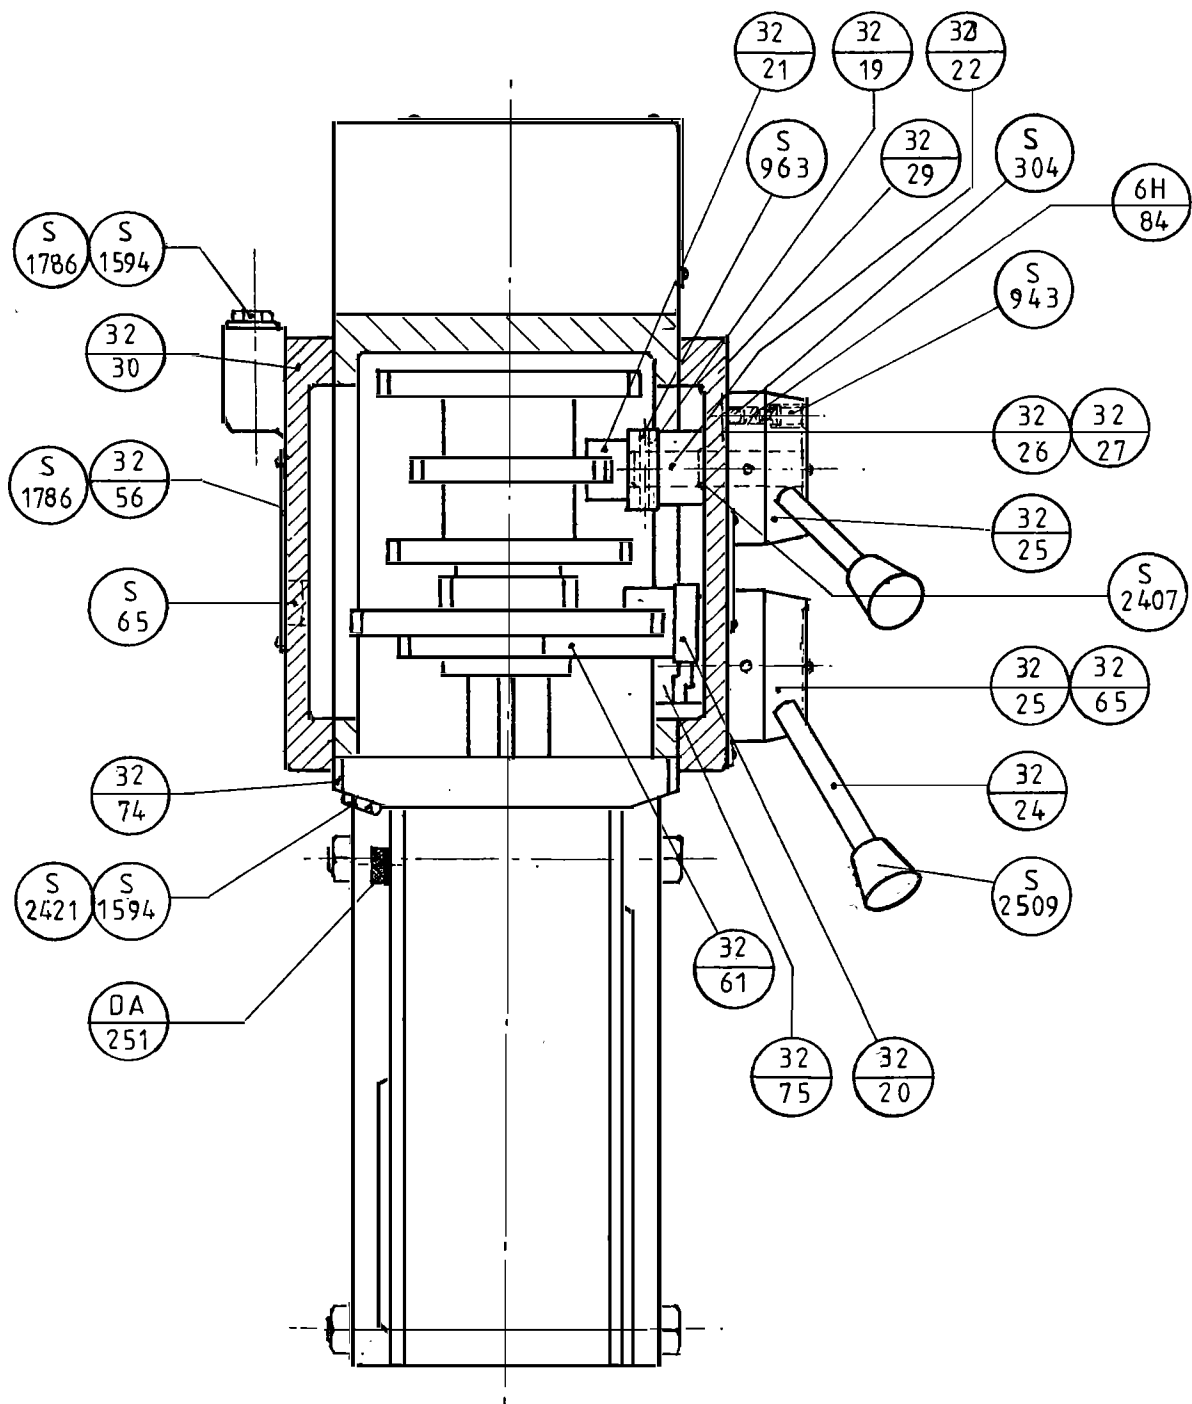

FIG. 4
- c) re-insert the Woodruff key (4) in its seat in the central screw;
- d) re-insert the control-wheel (15);
- e) place washers (3) and nut (2).
4) DISASSEMBLY AND ASSEMBLY OF THE SPLINED TABLE (fig. 4).